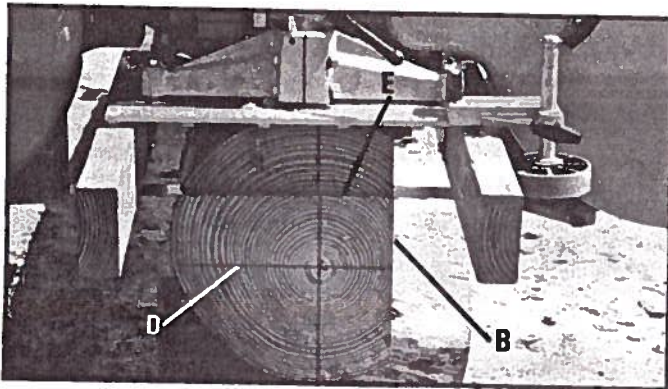

Fig. 54
12. Note in Fig. 54, that when the cut is completed, the second cut (E) is parallel to centerline (D) and square to first cut (B).